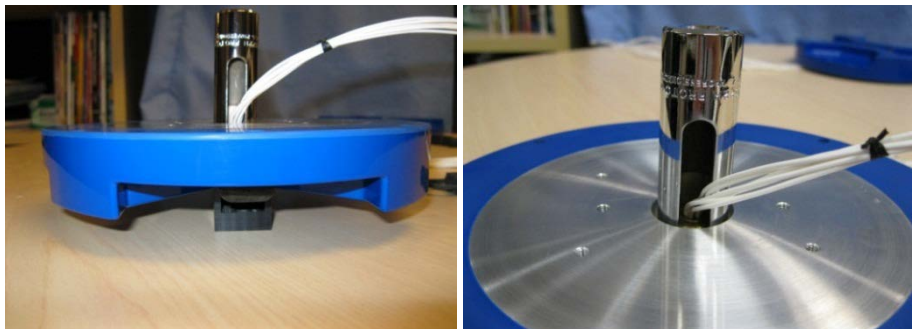

Figure 35. Lock Nut Removal Socket
11. Flip the End-Cap assembly over and insert the slotted socket onto the lock nut. Fit the cable wires into the socket's clearance slot (see Figure 35. Lock Nut Removal Socket).